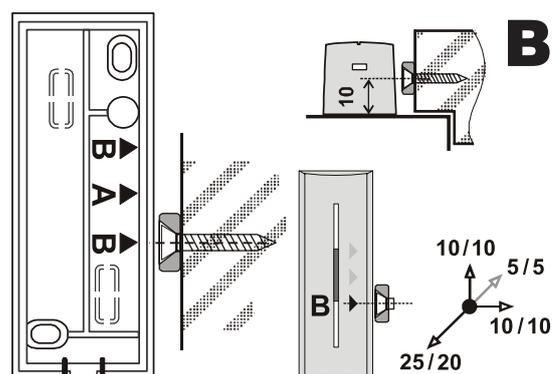

Fig. 6
3. Attach the magnet to the moving part of the window. The standard magnet in a plastic housing opposite the A arrow and the small round magnet against the B arrow. Its distance from the detector should be as small as possible when the door/window is closed. In the picture Fig. A and Fig. 6 are shown the reaction areas for magnets in millimeters in three axes of movement and on the non-magnetic / magnetic surface. Note: Use the supplied plastic spacer to compensate for possible height difference for magnet A.